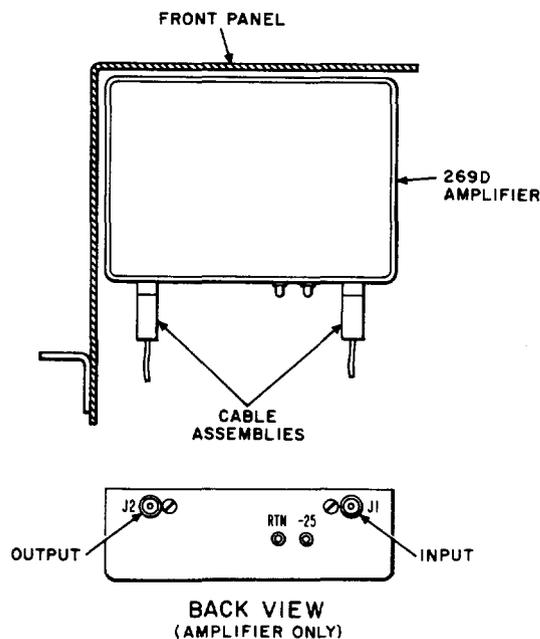

Fig. 10—Connections to 269D Amplifier
(b) Applying reversed input voltage polarity to the RTN and -25 terminals (Fig. 10) for a period of time.
- 4 Carefully withdraw the panel far enough so that the connectors on the amplifier can be reached. (See Fig. 10).